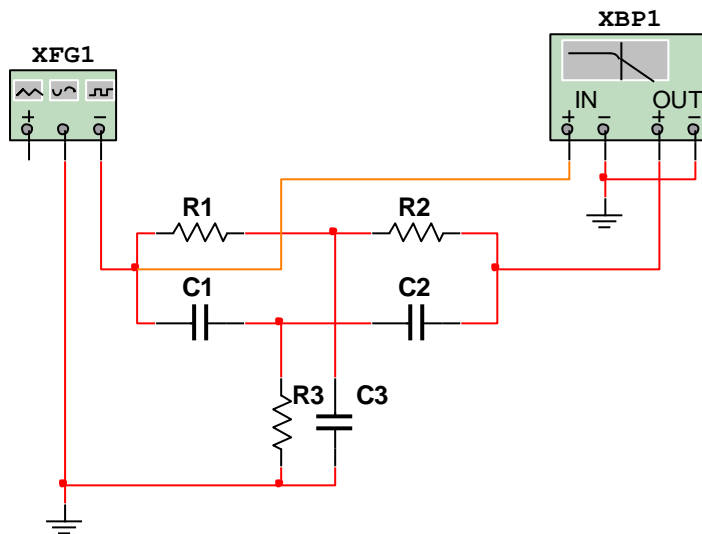

Fig. 1.8. Simulation circuit for TT – bridge
1.4. Create the TT – bridge simulation circuit as shown in Fig. 1.8.